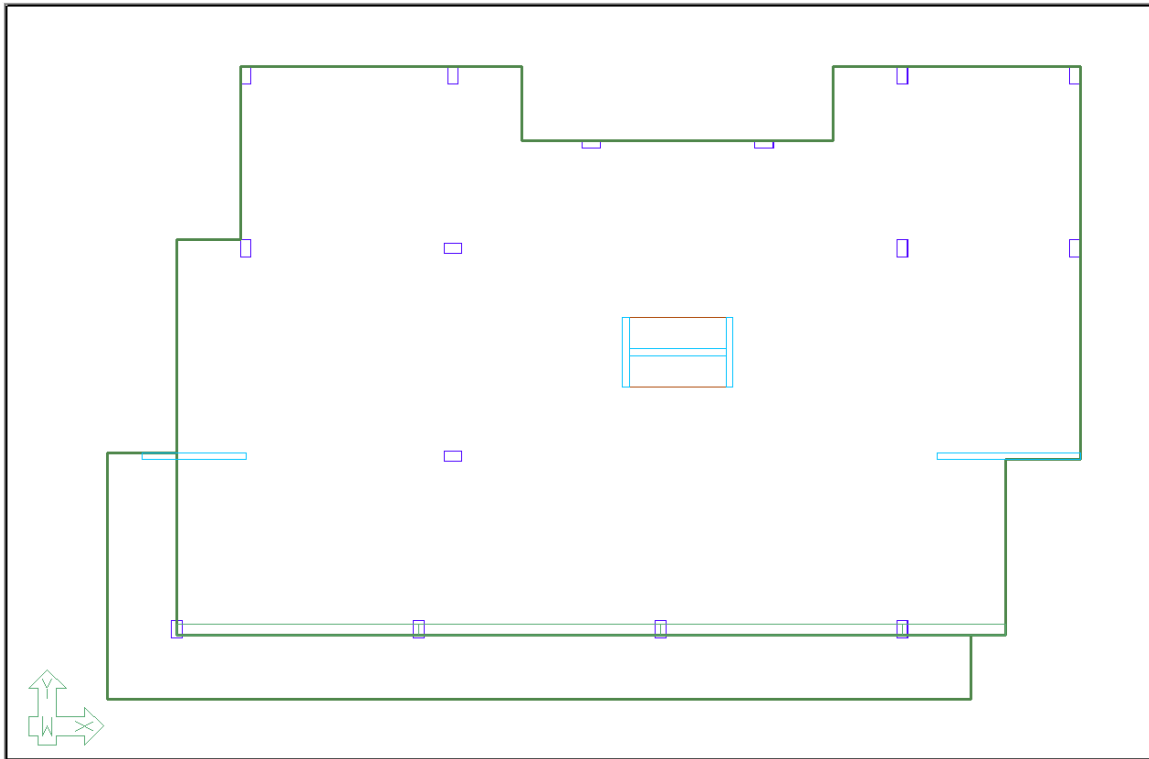

Figure 9-115
- In the *Visibility Grid*, click the **All** check box in the *Structure* section. This will turn on all structural components for this level. Turn off all other check marks. You should now see the model as shown in **FIGURE 9-115**.